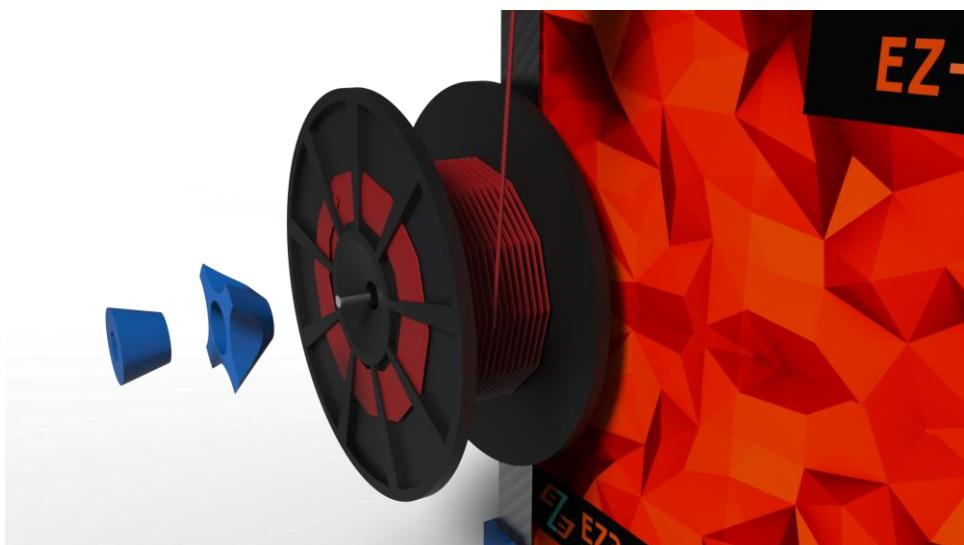

Figure 4.1: Filament spool mount parts
1. Locate the filament reel spindle and unthread and remove the wing nut and washer (fig. 4.1.). Set the filament reel on to the rear reel mount with the filament feeding clockwise. Insert the reel spindle into the plastic filament reel.